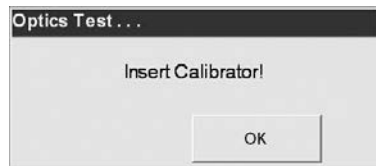

Fig. 7-16 Insert Calibrator
- Insert a calibrator cassette and press **OK** (Fig. 7-16).